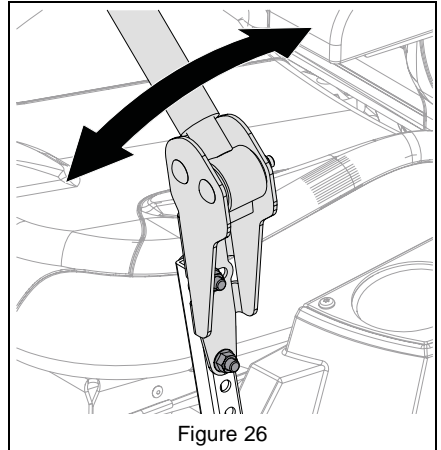

Figure 26
8. Loosen mounting hardware, align levers and tighten hardware. See Figure 26.